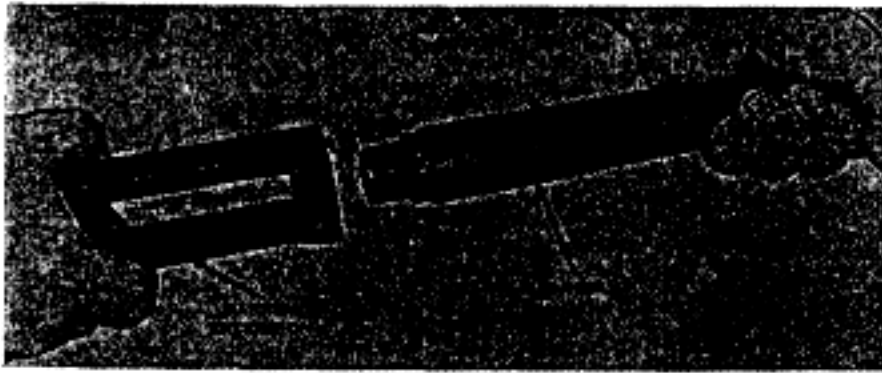

Figure 21. Separating the barrel and barrel extension.
*e. Barrel Extension and Barrel.* Remove the barrel and barrel extension from the receiver and unscrew them (fig. 21).